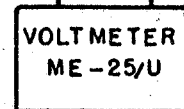

Figure 7-11. Test Set-up for Receiver Stage Gain Measurements
Receiver stage gain measurements are listed in table 7-5. The measurements should be taken as called for in paragraph 3 or 4 of this section. If a measured stage gain does not agree to within approximately 30% of the value given in table 7-5, then replace the stage. If this fails to correct the trouble, then take voltage and resistance measurements of the stage and associated components to locate the trouble. To measure stage gain, refer to the appropriate portion of table 7-5 and to figure 7-11, which shows the test set-up, and proceed as follows:
- a. Refer to figure 7-11 and connect a signal generator or audio oscillator as called for in table 7-1 to the point designated as input location on that table (location of points for test equipment connections or the receiver is shown in figures 7-2 and 7-3).